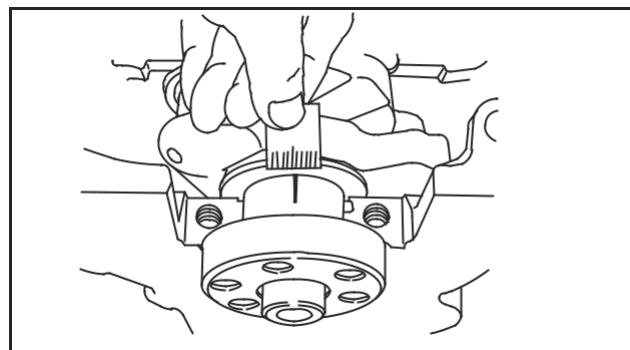

Fig. 6 – Measure Clearance
3. Remove the bearing cap. Measure the plastigage at its widest point, Fig. 6. If the clearance is not within specification, replace the bearings.